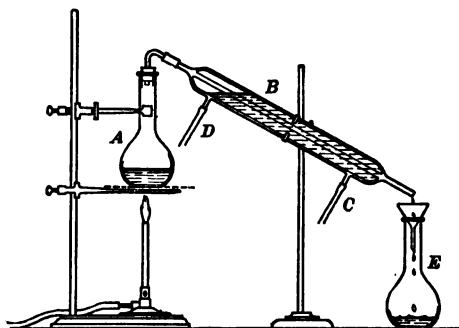

FIG. 24
**32. Distillation.** Connect a 500-cc. flask *A* with a Liebig condenser *B* (obtained from the general storeroom), as shown in Fig. 24. The tube *C* is connected with the water pipe by means of rubber tubing, and a current of cold water is allowed to flow through the outer tube of the condenser. Why is cold water admitted at *C* rather than at *D*? Half fill the flask with hydrant water and boil till 100 cc. or more of liquid has collected in *E*, the receiver. Compare the *distillate* (distilled water) with the hydrant water in appearance and taste. To what is the difference due? Interrupt the process of distillation and add a few crystals of a highly colored salt (potassium permanganate) to the water in the distilling-flask. Continue the distillation of the water. Is the distillate colored? Place 4 or 5 drops of the distilled water on a watch glass and evaporate. Is there any residue? Repeat, using hydrant water. Why is distilled water used in the laboratory?